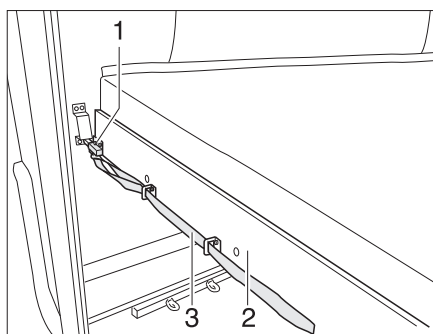

Fig. 176 Bunk bed (rear)
- Pull on the loop (Fig. 176,3) and release the latch (Fig. 176,1).
- Pull the slatted frame (Fig. 176,2) together with the mattress forward until it latches in place.